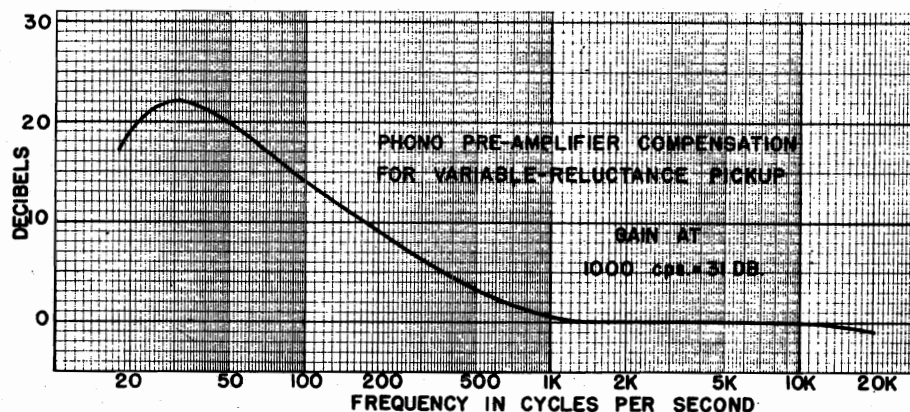

Fig. 3. Phono Pre-amplifier Characteristic
**PHONO** - The Phono Input jack feeds a pre-amplifier compensated (see Figure 3) for use with variable-reluctance type cartridges. The input resistors, R151 and R152, shunting this jack are recommended for use with a GE cartridge; recommendations for other cartridges and microphone usage are as follows.